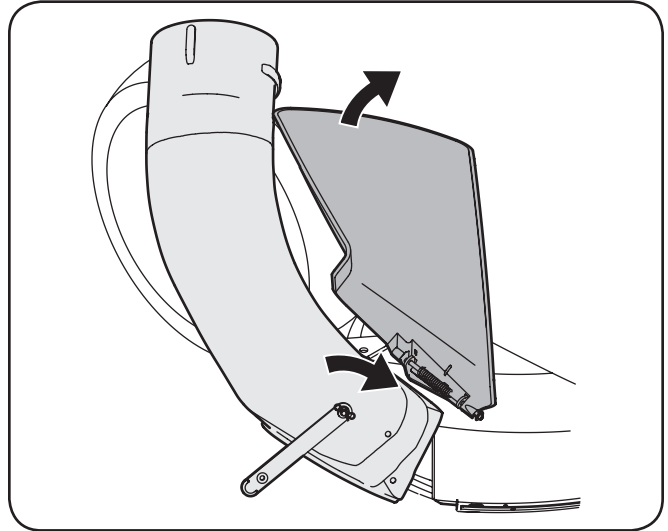

Figure 4-20
11. With the tractor's discharge chute raised up and held open, install the chute elbow over the chute opening by placing the top, rear edge of the chute elbow over the rear of the deck opening, then pivoting the chute elbow down and over the chute opening. See Figure 4-20.